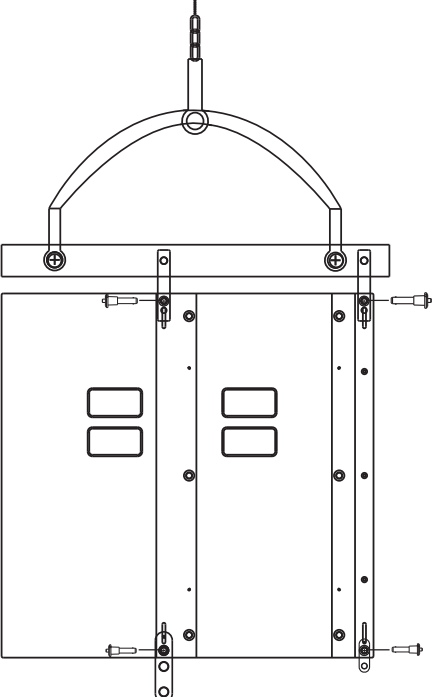

Figure 5
Step 5: Lift the subwoofer to an appropriate height, and then load the connecting rod into the lower part of the box with the bolt (Figure 5)